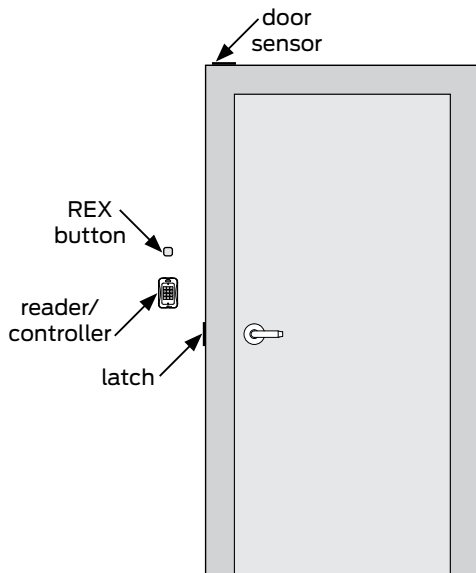

Figure 2.2: Typical configuration of equipment at the door
- **Figure 2.2: Typical configuration of equipment at the door**